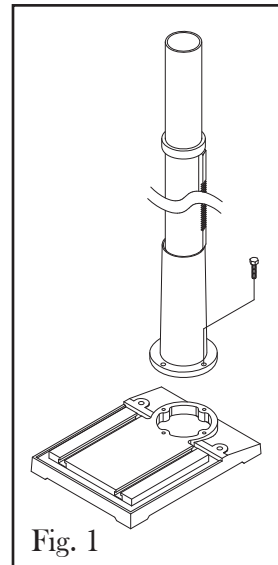

Fig. 1
1. Position the base on the floor. Attach the column to the base using four M10X30 hex head bolts (Fig. 1).